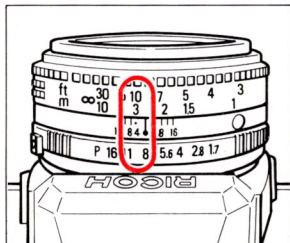

Fig. 67
2. Shift the distance setting to the infrared index mark. (Fig. 67)